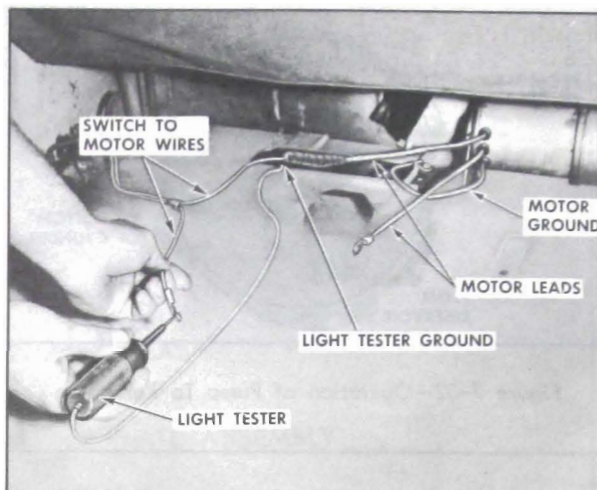

Figure 7-57—Checking Motor Wiring
3. Checking Switch to Motor Lead Wires. If switch is found to be operating properly, the switch to motor lead wires can be checked as follows: (See Figure 7-57)